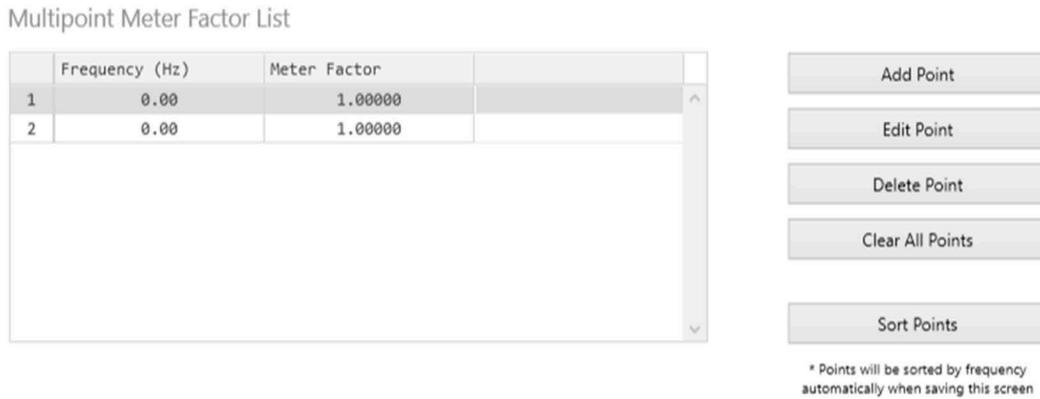

Figure 7.10—Multipoint Meter Factor
- Multipoint Meter Factor. Configurable as 2 points to 12 points (Figure 7.10). A number of points configured to be multiplied by the K-factor, resulting in the volume that passes through the turbine meter for each pulse at each specified frequency. The MC Synergy will automatically interpolate for frequencies between configured points.